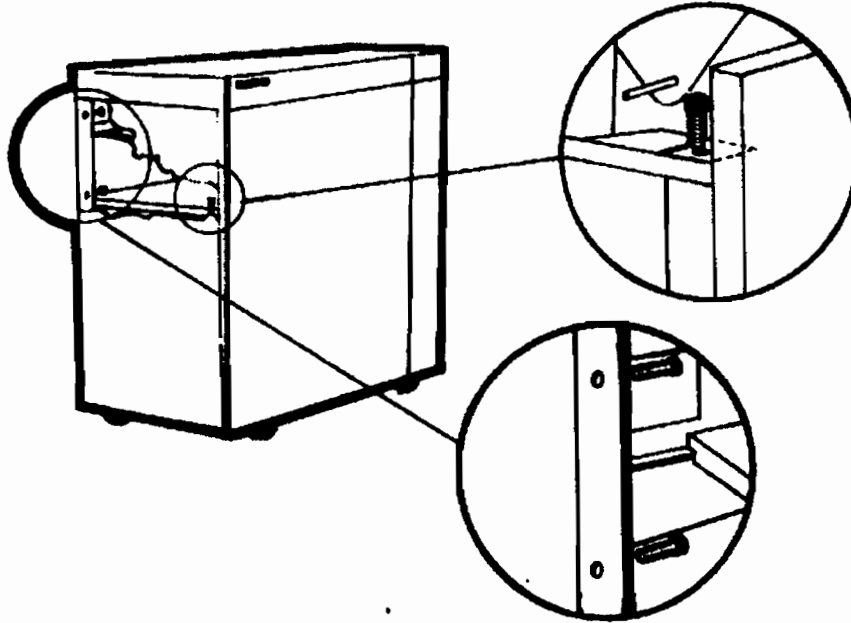

Figure 5. Left End Panel Mounting Screws
7. Remove the left end panel by removing the three 5mm allen screws securing the panel to the printer frame. Two of these screws are accessed from the rear of the printer, one from the front (Figure 5). lift upward and out to remove the panel